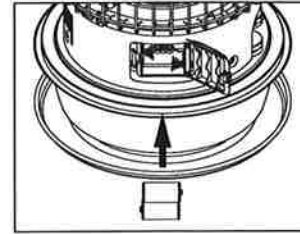

Fig. 15
- **BATTERIES -2 "C"** cell batteries are located at the rear of the heater. Replace with new batteries. (Fig. 15)